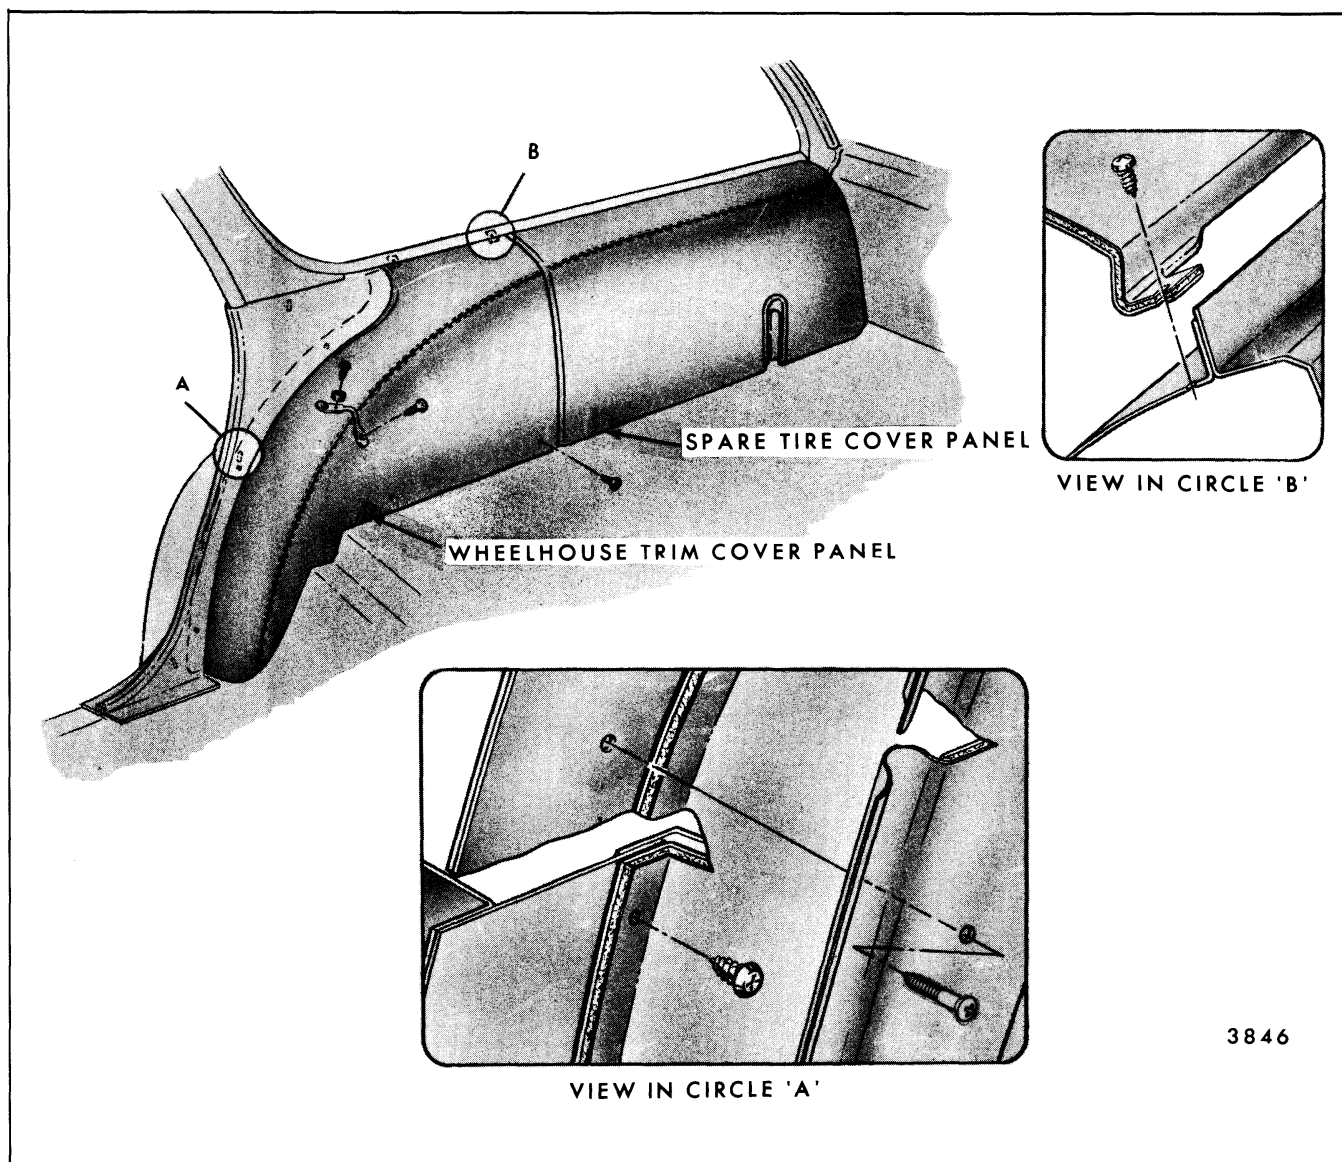

Fig. 6-16-Wheelhouse Trim Cover Panel (Right Side) - "B" Station Wagon Styles
4. Remove second folding seat back lock striker and bumper assembly from wheelhouse (Fig. 6-16).
garnish molding. The cover panel is secured at the bottom by a striker and folding (catch-type) lock handle (Fig. 6-16). To remove cover, open lock handle, swing bottom of cover outward to release at beltline and remove. To install, reverse removal procedure.